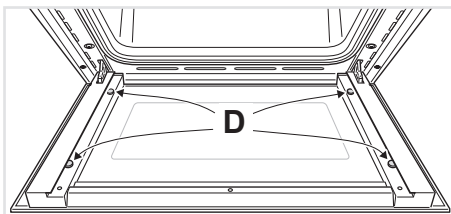

Fig. 4.18
- Check that the four rubber pads are in place (“D” in fig. 4.18).